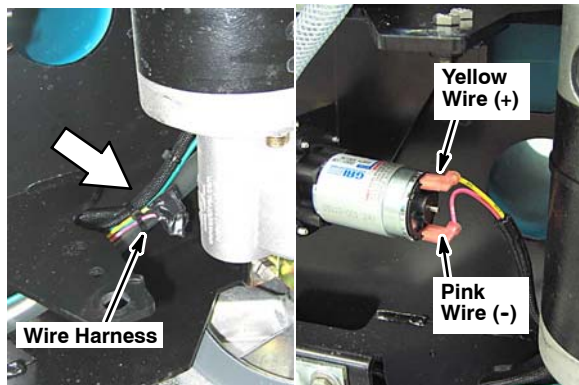

Fig. 6
10. Locate the 14A/yellow and 31/pink wires attached to the machine's wire harness. Connect the 14A/yellow wire to the wand pump's positive (+) terminal and the 31/pink wire to the negative (-) terminal (Figure 6).